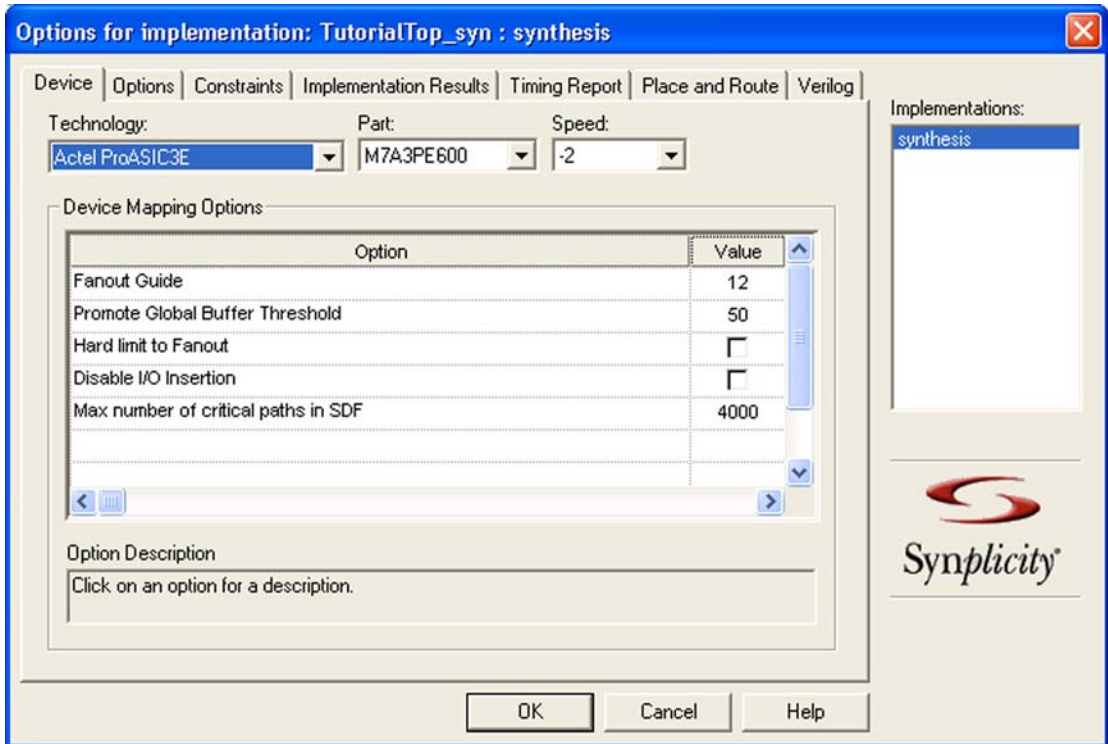

Figure 5-38. Implementation Options Dialog Box for the M7A3PE600
2. From the **Project** menu, select **Implementation Options**. This displays the options for the Implementation dialog box, as shown in Figure 5-38 for the M7A3PE600.